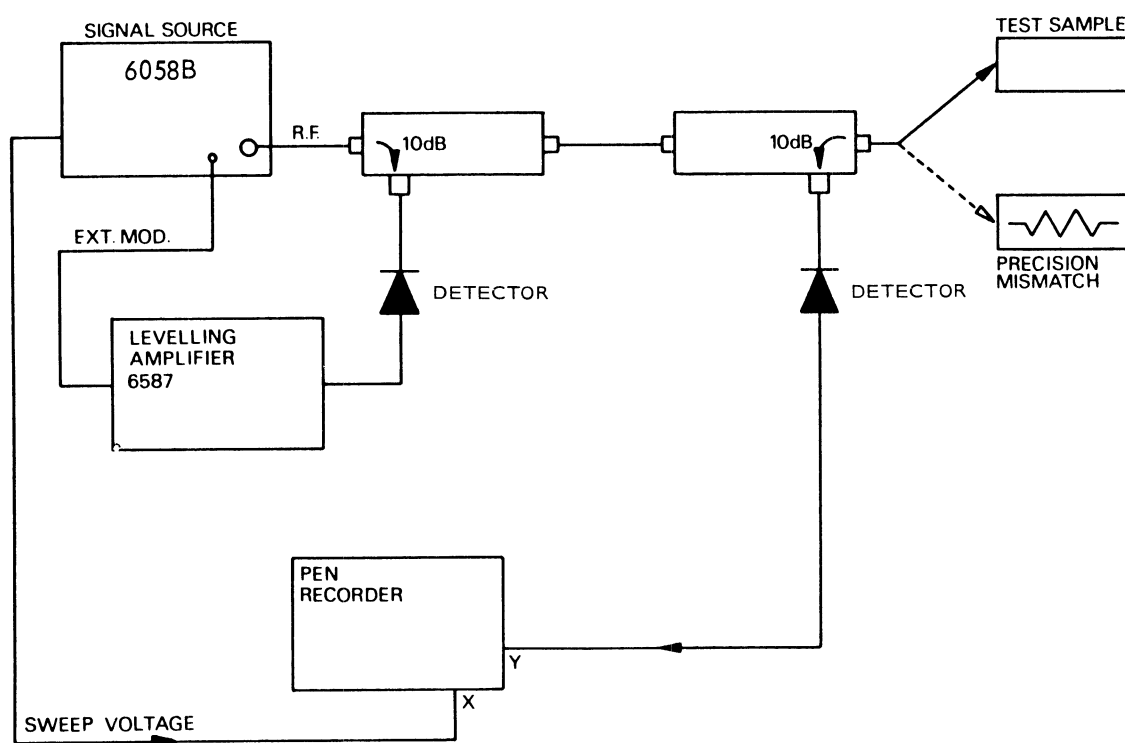

Fig. A1 V.S.W.R. Measurements
The Signal Source 6058 B, can be used in conjunction with an X-Y recorder to provide a permanent record of broadband measurements. When used in this mode the source is operated in a similar way to the Microwave Sweeper Type 6600A with the rear panel BNC socket providing the sweep voltage. Reflectometer and insertion loss measurements can be made in the usual way see Figs.A1 and B1. The output voltage is zero at 8 GHz and approximately 10V at
- A. Manual Sweep Frequency Measurements of V.S.W.R. Using the equipment as shown in Fig.A1 a permanent record of test results can be obtained over the complete frequency range of the